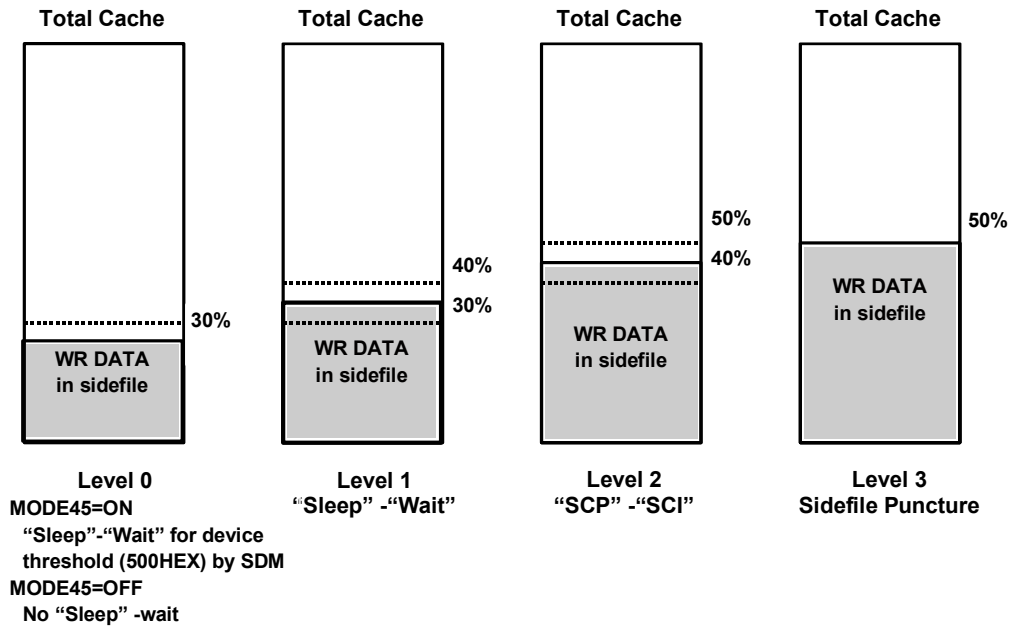

Figure E.2 Combination 1: MODE 85,86 = ON,OFF; Threshold 1/2/3 = 30/40/50%
- MODE 85, 86 (see Figures E.2-E.5)